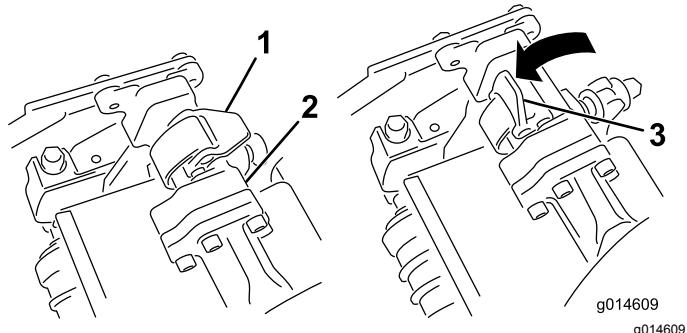
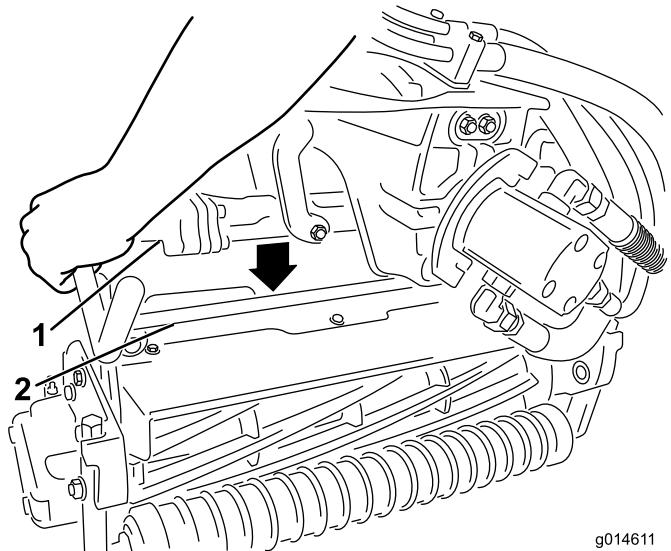

Figure 46
Figure 47
3. With the latches on the suspension-arm bar pointing up (i.e., open) (Figure 46), push the suspension arm down so that the bar fits over the top of the cutting unit (Figure 47).
4. Close the latches down and around the cutting-unit bar and lock them in place (Figure 46).
4. Open the latches on the suspension-arm bar of the cutting unit you are removing (Figure 46).